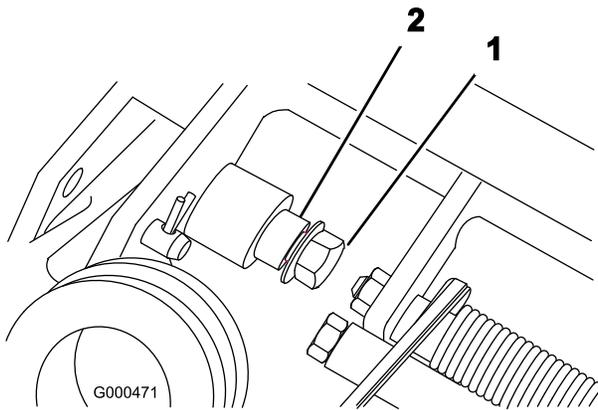

Figure 8
1. Remove the flange lock nut from the bolt and pivot pin on each side of the mower (Figure 8).